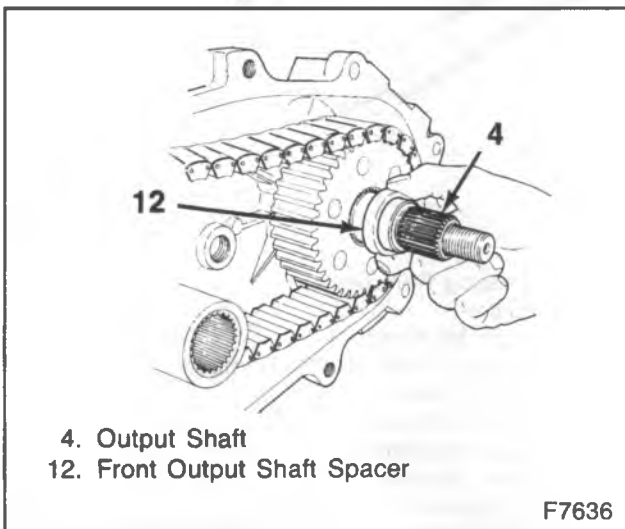

Figure 22—Installing the Front Output Shaft Spacer
15. Front output shaft spacer (12) onto the front output shaft (4) (Figure 22).
16. Magnet (15) to the rear case half (10).
17. Apply an 1/8 inch bead of Gasket Eliminator PT-7276 (Loctite 51580) or equivalent to the rear case half (10) front cover sealing surface.